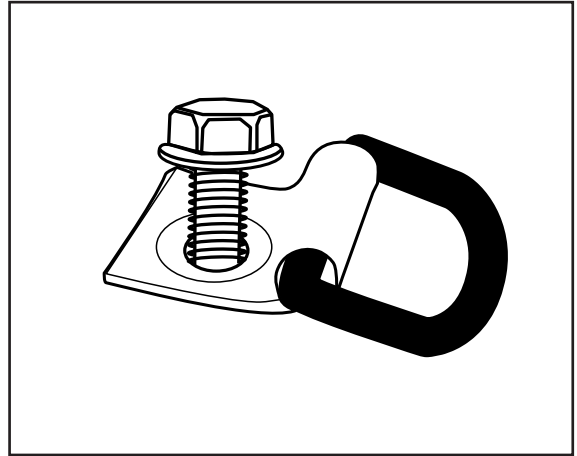

Fig. 3
4. Insert Black Zinc 13mm head self-threading bolt into mounting D-Ring (x2) (Fig. 3).